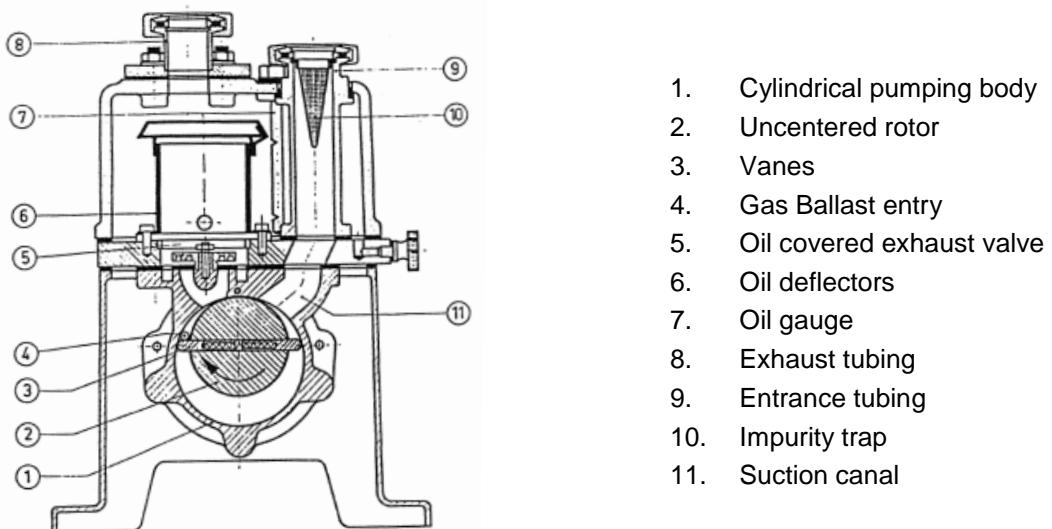

Figure 9: Sectional view of a rotary vane pump
A vane pump (fig. 9) consists of a hollow cylinder (1) in which an uncentered rotor (2) containing vanes (3) is rotated. The vanes are constantly pressed against the cylinder walls, thus sucking air from one side of the pump (11) and pushing it through the exhaust valve (5) on the other side. The rotor is off center, so that the volume of gas trapped by two vanes is variable. This allows the air to be compressed when arriving towards valve, which ensures that there will always be enough pressure to lift it. Many parts of the system are covered in oil. The oil simultaneously acts as a lubricant and covers up the remaining gaps.